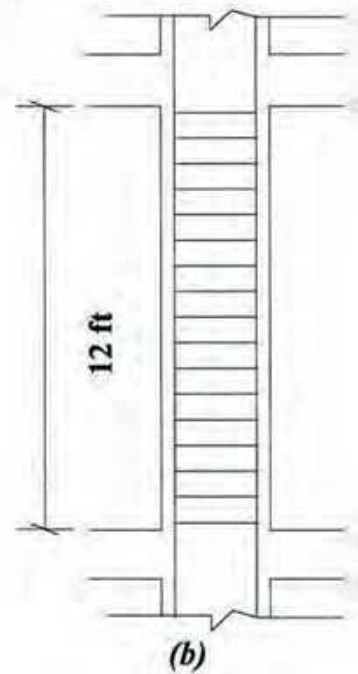

Figure 3
- (c) Explain how degree of confinement effects the nominal shear capacity of beam-column joints. (5)
3. a) What is seismic base isolation system? What are the characteristics of a well-designed seismic base isolation system? (8)
- b) Write short notes on: (i) Resonance, (ii) Spherical sliding bearing. (6)
- c) What is liquefaction? Explain how it takes place during earthquake. (6)
4. a) Write short notes on: (i) Anchorage, (ii) Development length. (6)
- b) What are the requirements for concrete and steel reinforcement for earthquake resistant design? (4)
- c) Determine the minimum transverse reinforcement of the column (*Figure 3*) required over length l_0 . Show the reinforcement detailing in neat sketch. (10)